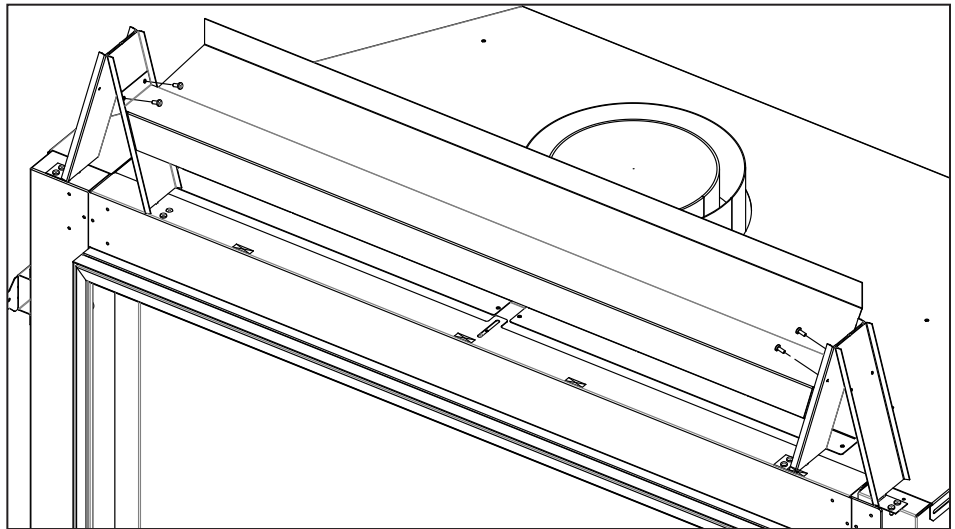

Figure 32: Top Standoff Support Install
3. Install heat shield support using four (4) supplied T-20 screws (see Figure 32).